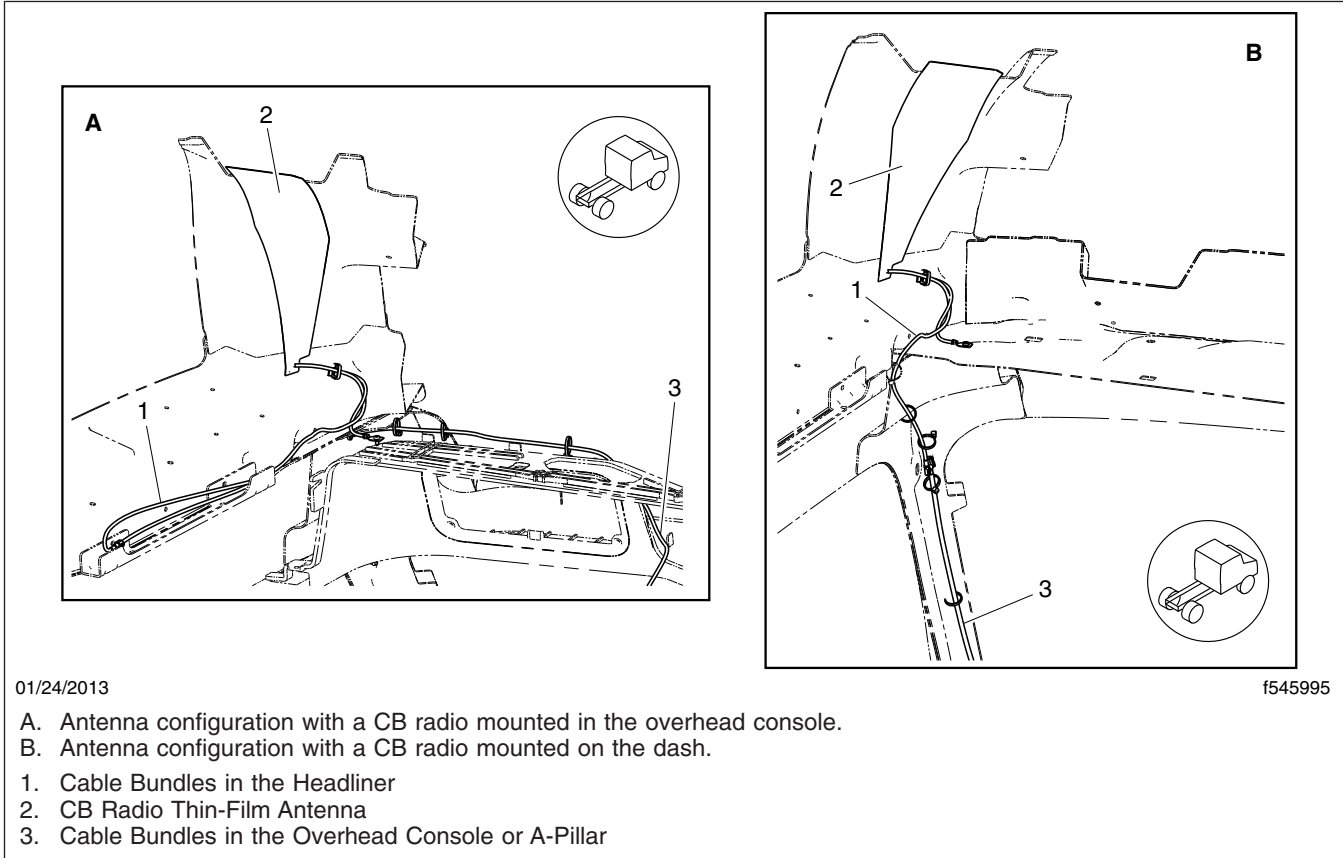

Fig. 8, Thin-Film Antenna, CB Radio on Vehicles with a Raised Roof
- See Fig. 8 for CB radio antennas mounted on vehicles with a raised roof.